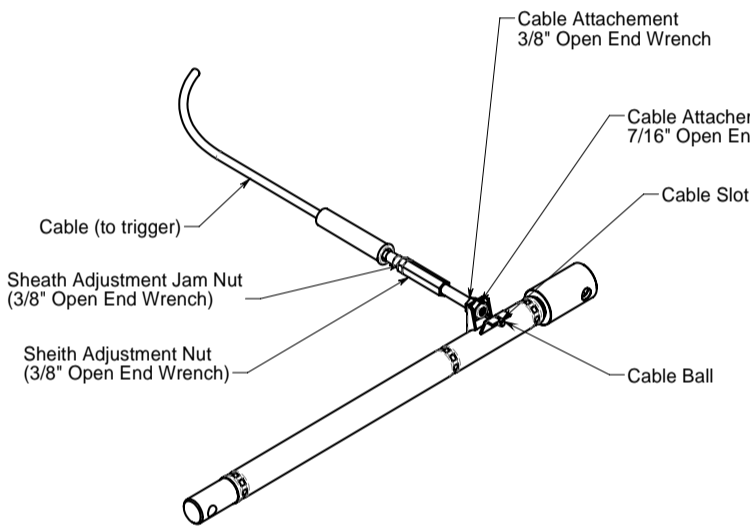
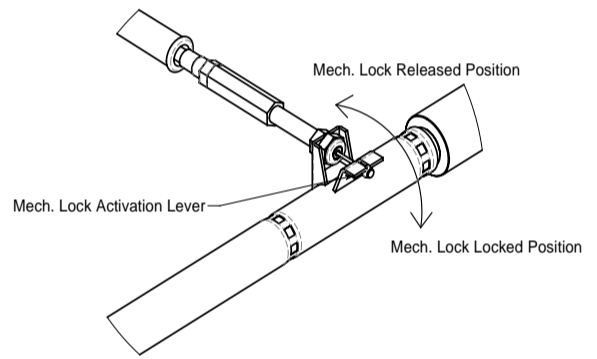

Figure 14.38: T50 Mech. Lock
Figure 14.39: T50 Mech. Lock - Locked and released positions
The Fuze T50 tilt-in-space feature is designed using a center of gravity tilt. Meaning the occupants center of gravity facilitates in positioning the seat angle. The seat angle is set with the use of a linear mechanical locking device also referred to as a mech-lock, see Figure 14.38 and Figure 14.39. To adjust the tilt angle, activate the tilting lever/trigger located on the push bar, depending on how the wheelchair has been configured. This activation releases the lock on the mech-lock allowing the wheelchair seat to be lowered into and out of tilt. Once the activation lever/trigger is released the seat angle should lock in its position.
4. Attach cable wire onto the mech-lock, slide steel ball through slot on lever (so ball is underside of the lever), see Figure 14.39 for reference.